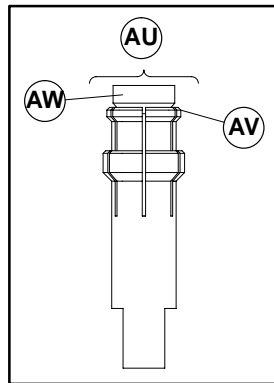
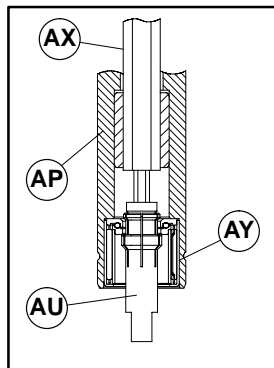

Figure 20
Figure 21
Bearings in pulleys on the 3" (70 mm) and wider conveyors can be removed with Dorner Bearing Removal Tool (AU of Figure 20), part number ☆25-05.
NOTE: To ensure bearing removal tool (AU of Figure 20) will fit into bearing, make sure that the flair (AV) on bearing removal tool is completely closed.
1. Using hex key wrench extension tool (AX of Figure 21), either part number ☆25-08 or ◇25-08A, loosen tapered screw (AW of Figure 20) on bearing removal tool (AU) to compress flair (AV) until flair is completely closed.
2. Insert bearing removal tool (AU of Figure 21) into pulley (AP) through bearing (AY).